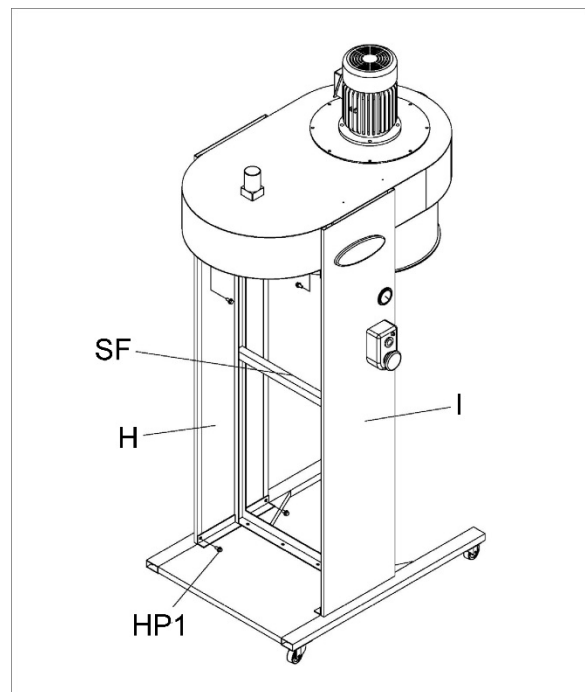

Figure 6
5. Attach left panel (L, Figure 6), and right panel (H) to frame (SF) with hex flange bolts (HP1). NOTE: Feed switch cords through to top of housing *before* tightening screws on left panel.